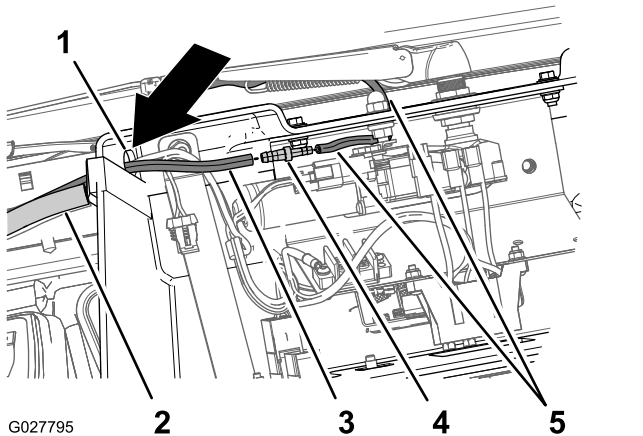

Figure 20
1. At the overhead console, route 1 end of the hose through the hole in the overhead console (Figure 20).
2. Insert the small end of the barbed hose fitting into the end of the hose from the wiper arm until the fitting fully seats (Figure 20).
3. Insert the large end of the barbed hose fitting to the end of the hose until the fitting fully seats (Figure 20).